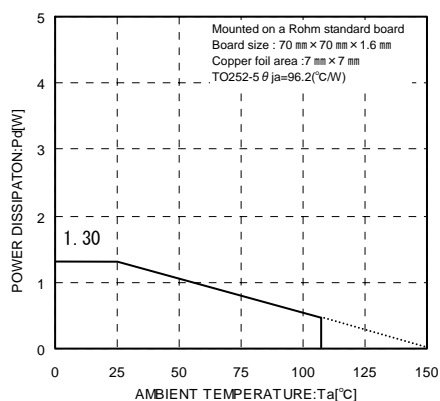
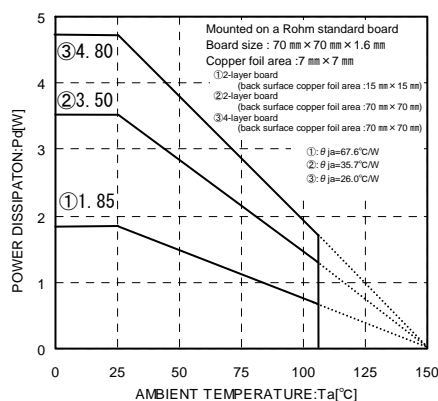

Fig.26
Fig.27(Reference data)
When using at temperatures over  $T_a=25^\circ\text{C}$ , please refer to the heat reducing characteristics shown in Fig.26 and Fig.27. The IC characteristics are closely related to the temperature at which the IC is used, so it is necessary to operate the IC at temperatures less than the maximum junction temperature  $T_{j\text{max}}$ .
Fig.26 and Fig.27 show the acceptable loss and heat reducing characteristics of the TO252-5 package. Even when the ambient temperature  $T_a$  is a normal temperature ( $25^\circ\text{C}$ ), the chip (junction) temperature  $T_j$  may be quite high so please operate the IC at temperatures less than the acceptable loss  $P_d$ .
The calculation method for power consumption  $P_c(\text{W})$  is as follows : (Fig.27③)
$$\left[ \begin{array}{l} \text{Fig.27③: } \theta_{ja}=26.0^\circ\text{C/W} \rightarrow -38.4\text{mW}/^\circ\text{C} \\ 25^\circ\text{C}=4.80\text{W} \rightarrow 85^\circ\text{C}=2.496\text{W} \end{array} \right]$$